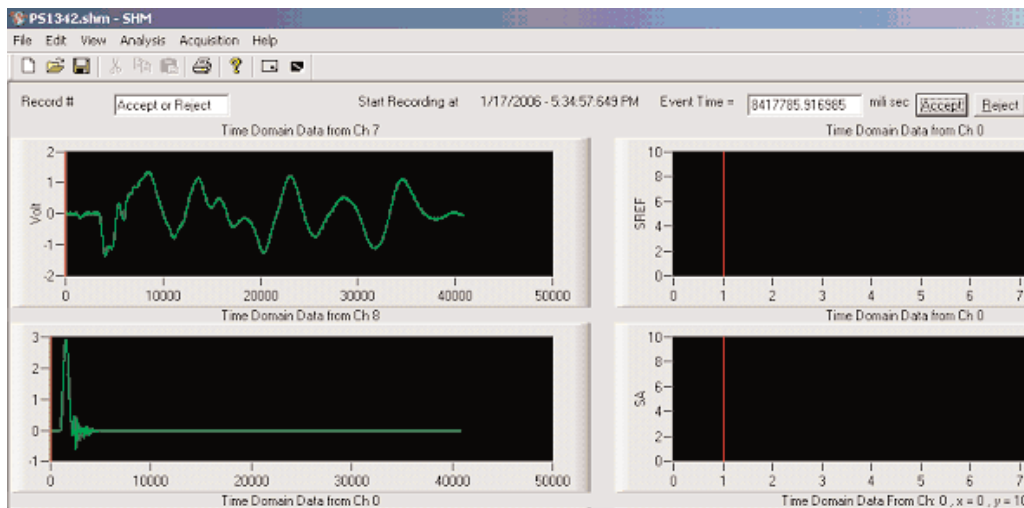

Figure 6: Accept or Reject Data
- After starting the data acquisition, the software will wait for the trigger signal. If the signal level on the user-selected trigger channel is above the trigger level (or more negative, if a negative trigger value is selected), the software will show all the acquired data on the screen. In this step, the user should click on Accept or Reject to accept and reject the signal (for “View Mode”), see Figure 6. The data acquisition will stop when it acquired complete records (as set in “Number of Records”).